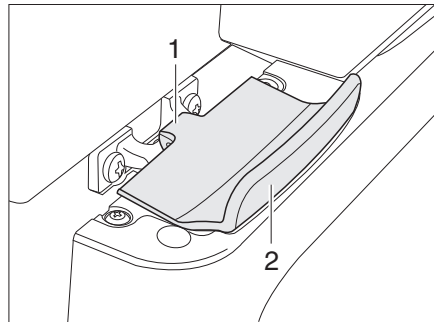

Fig. 133 Lock of refrigerator door, closed (Thetford)
- Open the refrigerator door at the handle (Fig. 133,2). The lock (Fig. 133,1) is released automatically.